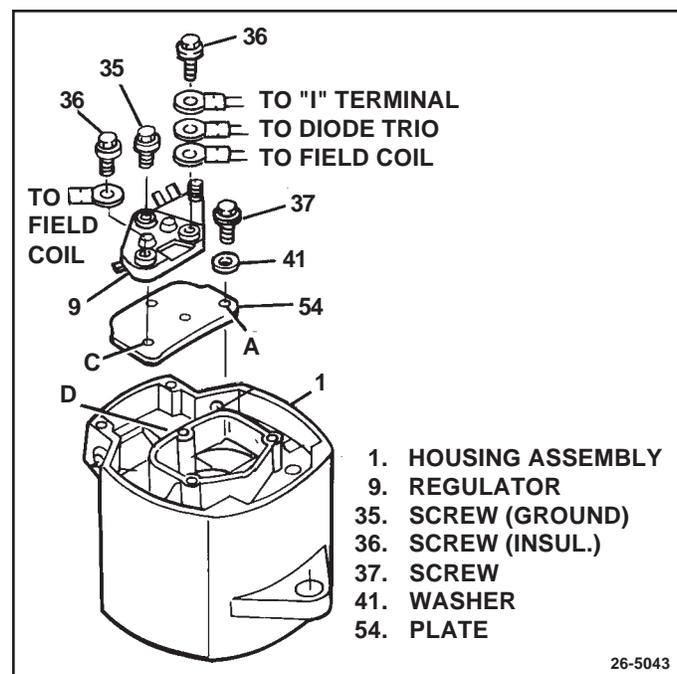

Figure 42. Installing Regulator
22. Coat regulator mounting area in rectifier end housing (1) and both sides of regulator mounting plate (54) with silicone dielectric grease (1974984). Place plate into rectifier end housing, aligning holes with those in the housing. If unit uses a regulator mounting plate attachment screw (37) (1/2" long), install screw/washer assembly (41) to hole A. (See Fig. 42) Finger tighten.
23. Coat back (metal side) of regulator (9) with silicone dielectric grease (1974984). Place regulator onto mounting plate, aligning mounting holes with those in rectifier end housing. Install regulator grounding attachment screw/washer assembly (35) (1" long) through regulator and mounting plate into housing hole D. Finger tighten.
24. Place "I" terminal lead (if used), blue lead from diode trio, and long field coil lead over hole B (See Fig. 42) and insert insulated regulator attachment screw (35) (1" long). Place short field coil lead over hole C and insert insulated regulator attachment screw (36) (1" long). Finger tighten both screws.